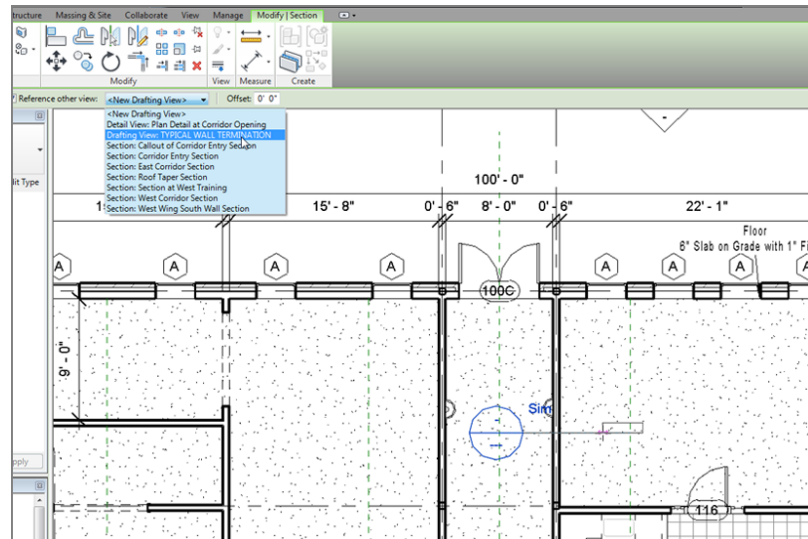

FIGURE 12.72 Choosing the correct options while placing the section
2. Zoom in on the area of the east wing shown in Figure 12.72.
6. Place the section into the model (see Figure 12.72).